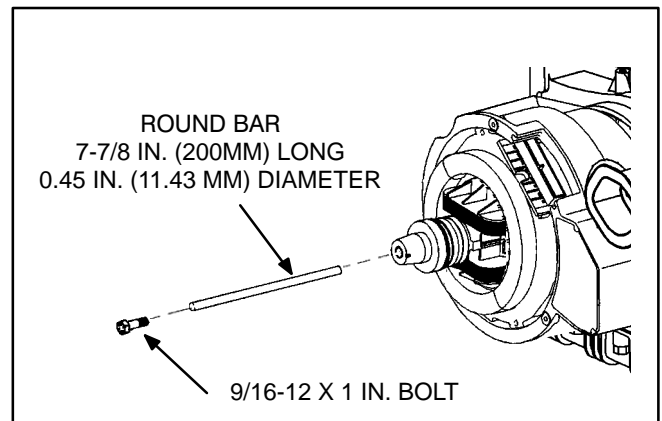

FIGURE 7-4. ROTOR REMOVAL
12. Pull outward on the rotor shaft to remove it. If the rotor does not come loose from the tapered engine crankshaft, install a solid round bar 7-7/8 inches (200 mm) long by 0.45 inches (11 mm) in diameter into the rotor through bolt hole (Figure 7-4). Thread a 9/16-12 x 1 inch bolt into the end of the rotor shaft and slowly tighten the bolt until the rotor comes loose.